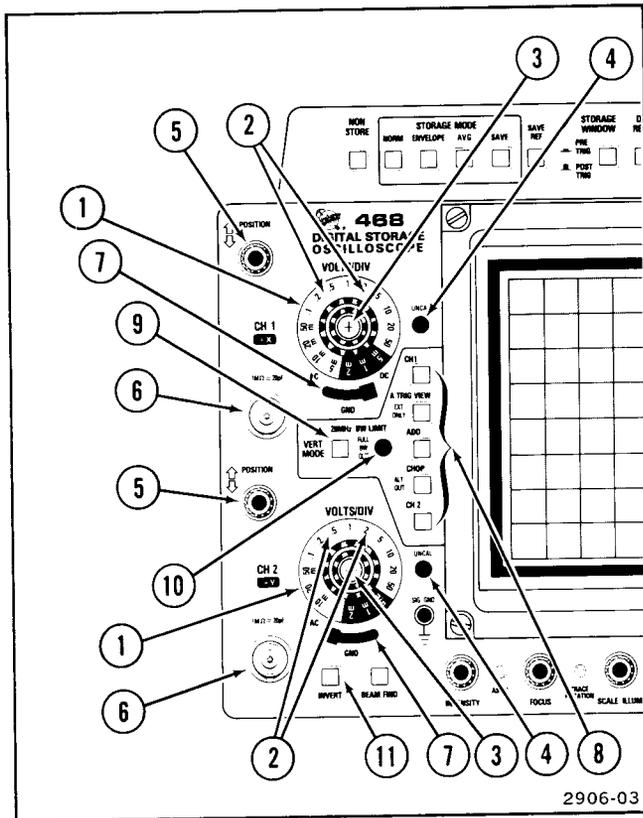

Figure 3. Vertical controls, connectors, and indicators.
Refer to Figure 3 for location of items 1 through 11.